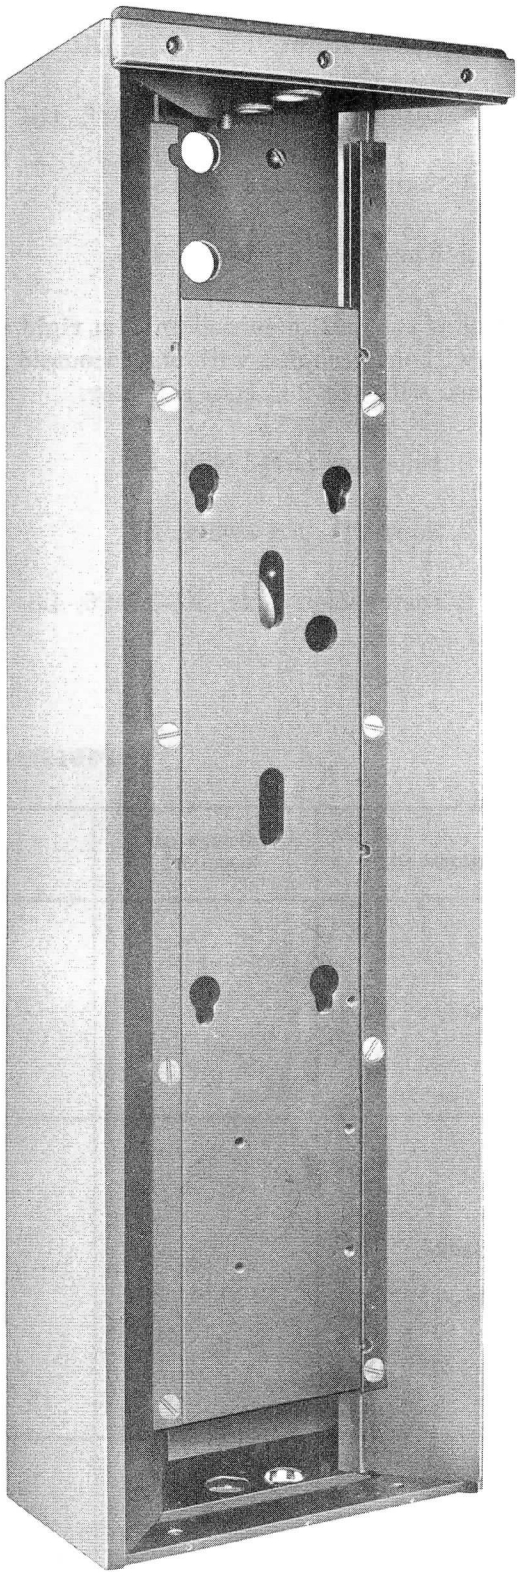

Fig. 14 — KS-19426, List 5 Support
- (b) A List 5 support (Fig. 14) is used for mounting a housing on a flat surface.